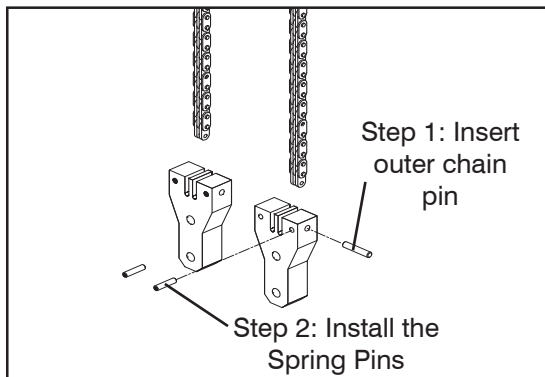

Figure 5-45. Outer Chain Mount Installation
1. Align the chain to the chain mount pin slot and install the outer chain pin. See Figure 5-45.